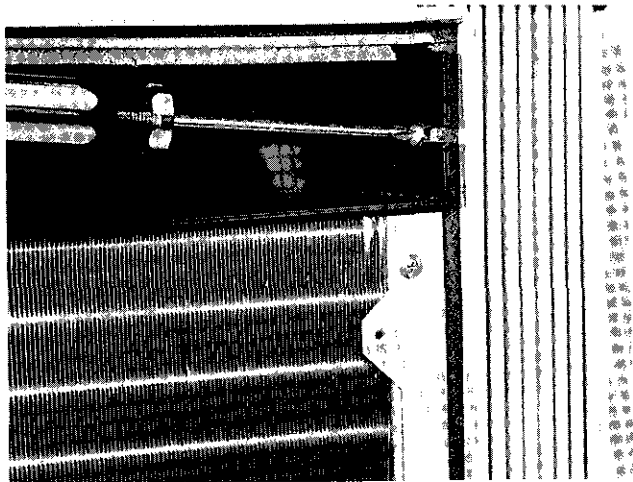

Fig 5 — Unlocking Chassis Security Lock Screw
- 4 **Chassis Security Lock Screw** — To slide chassis out of casing, security screw must first be loosened. Loosen screw and slide screw to unlock position (forward). When reinstalling chassis in casing, reverse procedure and tighten screw in lock position. See Fig 5.